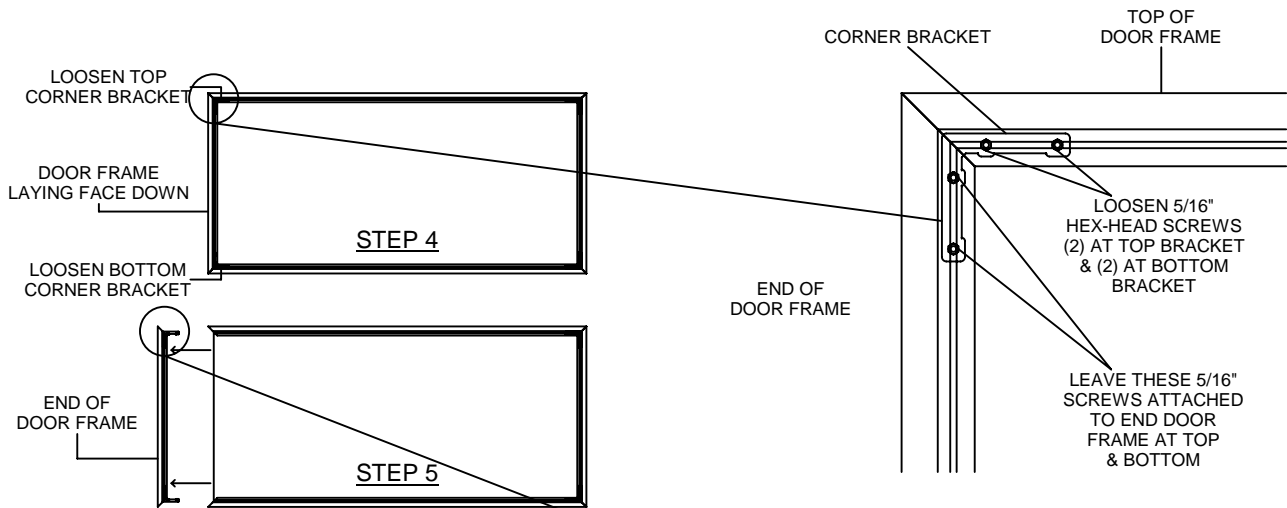

FIGURE 1.4
STEP 4: With door frame protected laying face down on table or blanket you will need to remove three (3) screws with your flat-head screwdriver located at top of frame and one side of bottom. These screws hold frame to clear face. After the 3 screws have been removed you will need your 5/16" hex-head socket and wrench to loosen the top and bottom corner brackets that hold door frame together. (Figure 1.4)